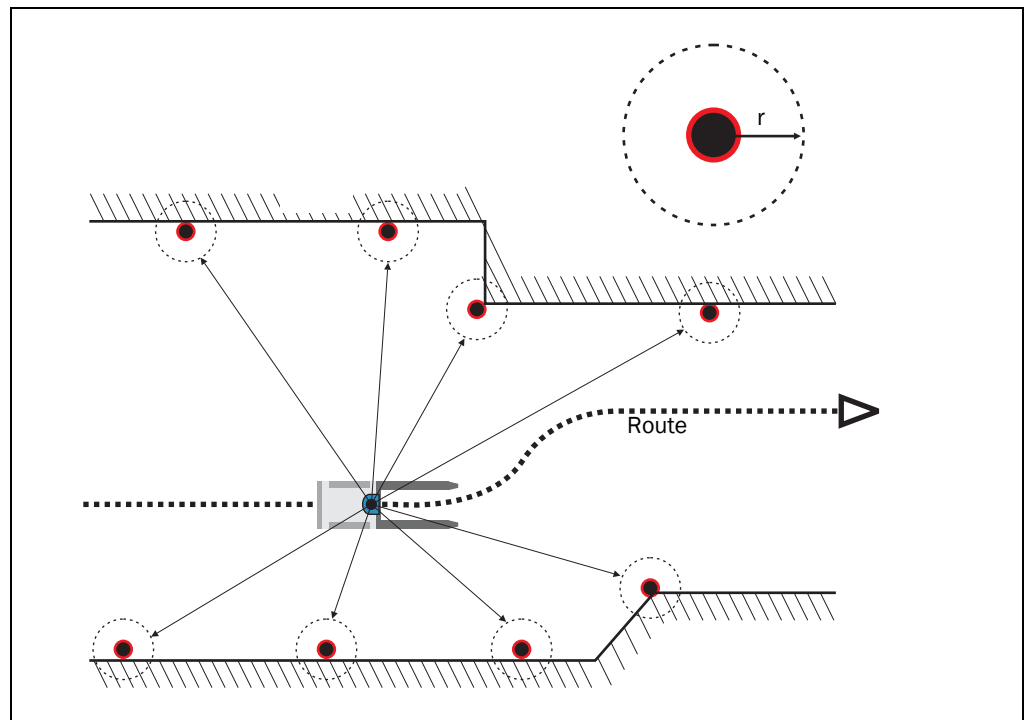

Fig. 11: Identification of reflectors in the operational status “continuous positioning”
During **continuous positioning** the NAV350 has an expectation as to the approximate position of the reflectors (see fig. 11). For this purpose the NAV350 places a detection window with a configurable radius r (factory setting 300 mm (11.81 in)) around each reflector coordinate.
- From the velocity data an expected position for reflectors in the next measuring cycle is calculated, in this way the measurement of the reflectors within one head revolution is corrected (see fig. 11 on page 25).